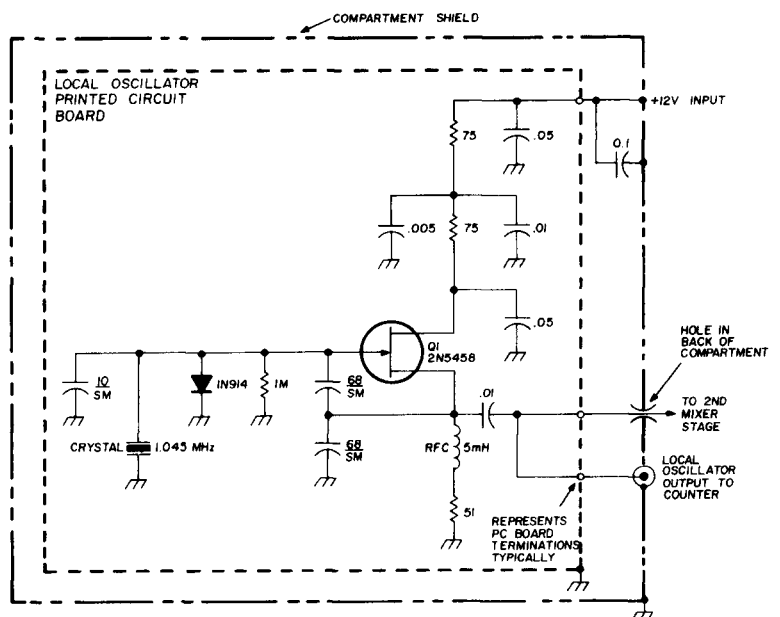

fig. 6. Local-oscillator schematic.
**Local and beat-frequency oscillators.** The local and beat oscillators are described in figs. 6 and 7 respectively. Simple fet oscillators are used. Many fet substitutes will perform equally as well. The output voltages are as indicated on the schematic. Good-quality parallel-resonant crystals should be used, with only the nominal 455-kHz crystal requiring careful selection of the shunting capacitor, since this